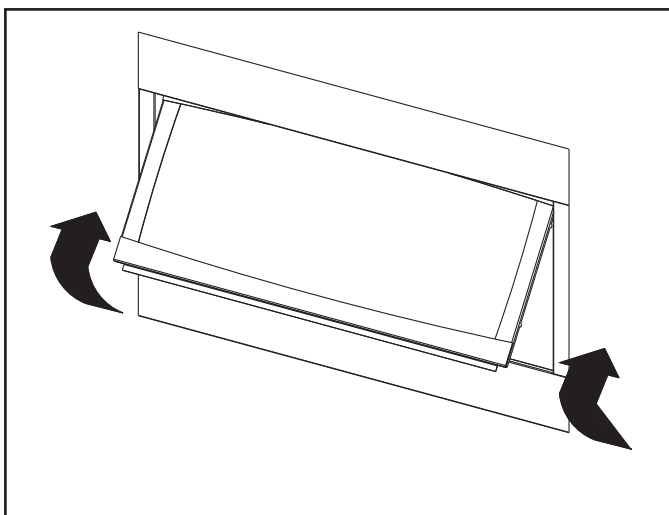

Figure 4.3 Lift Glass
3. Tilt glass away from unit. Lift glass frame up and away from unit. See Figure 4.3.